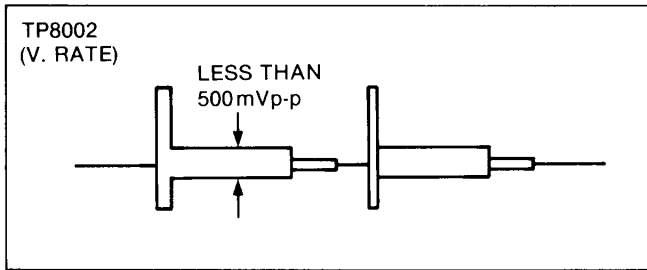

Figure E38
4. Adjust VR8005 and VR8006 mutually so that the chroma signal is minimized as possible (less than 500mVp-p at least) as shown in Figure E38.